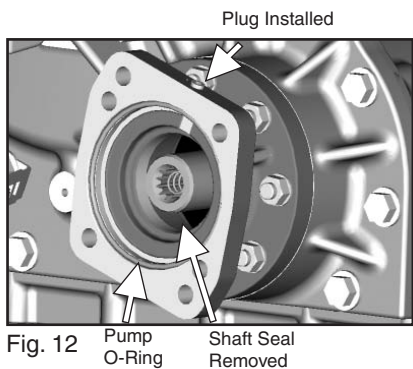

Fig. 12
- a. Wet spline installation will be the same as above (step through of the pump mount installation item 4 page 12)
- b. The P.T.O. housing will not have an oil seal and there will be a "plug" (1/8" NPT) in the housing (**Fig. 12**).
- c. Install O-Ring that is supplied with kit in flange as shown (**Fig. 12**).